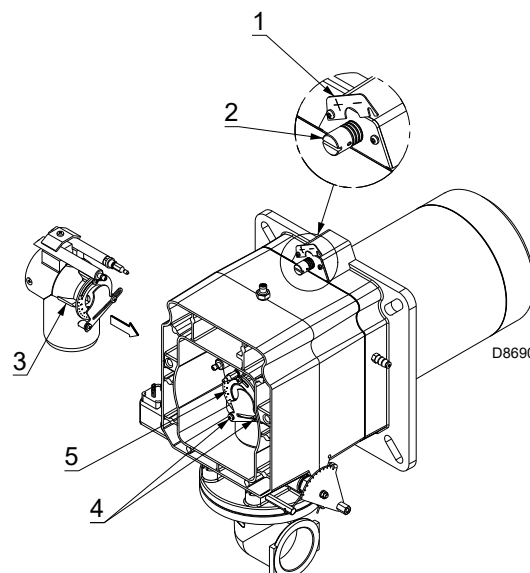

Fig. 15
- rotate the screw 2 (Fig. 15) until the notch you have found corresponds with the front surface 1) of the flange.
To facilitate the adjustment, loosen the screw 3 (Fig. 15); adjust, then lock in place.
- loosen the screws 4) and rotate the ring nut 5) (Fig. 15) until the notch you have found corresponds with the indicator 3);